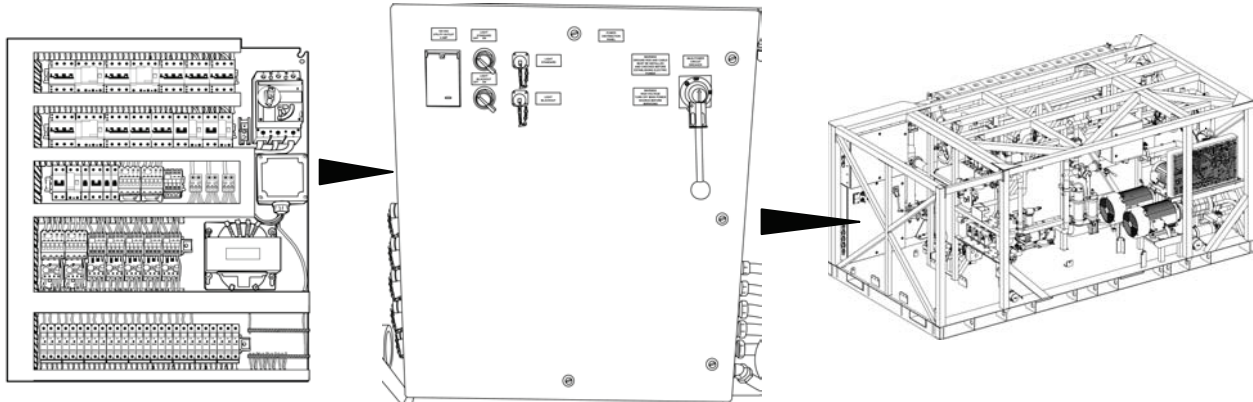

Figure 28. Power Distribution Panel.
- **Power distribution panel.** The power distribution panel is located below the operator control panel and behind the lower panel door (see Figure 28). It contains the circuit breakers and motor starters needed to provide power to all of the electrical devices included in the TWPS.